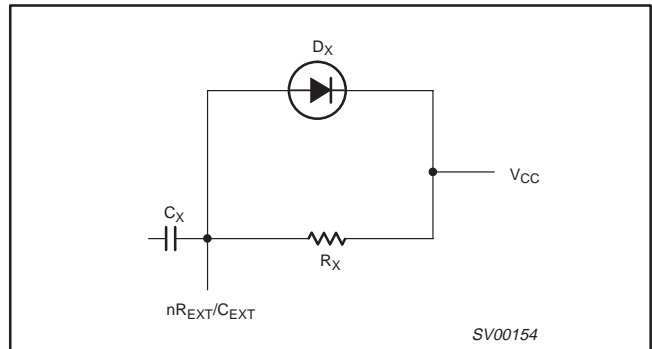

Figure 7. Power-down protection circuit
A large capacitor (CX) may cause problems when powering-down the monostable due to the energy stored in this capacitor. When a system containing this device is powered-down or a rapid decrease of VCC to zero occurs, the monostable may sustain damage, due to the capacitor discharging through the input protection diodes. To avoid this possibility, connect a damping diode (DX) preferably a germanium or Schottky type diode able to withstand large current surges as shown in Figure 7.